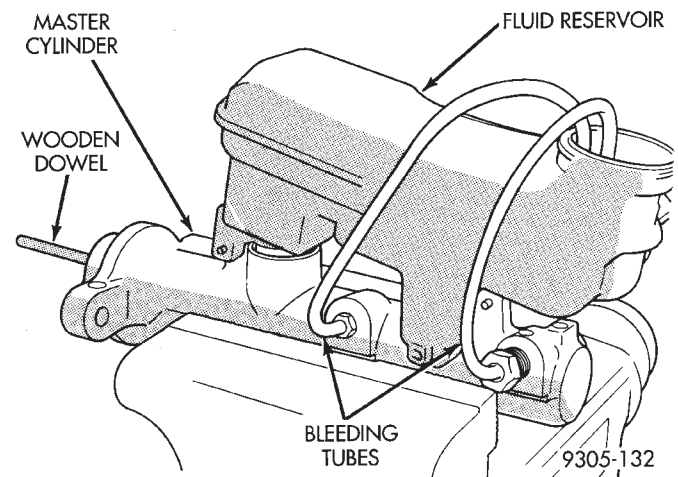

Fig. 7 Bleeding Master Cylinder
(1) Clamp the master cylinder in a vise. Attach Bleeding Tubes to master cylinder (Fig. 7). Position tubes so the outlet of the Bleeding Tubes will be below the surface of the brake fluid when the reservoir is filled to the proper level.
(2) Fill reservoir with brake fluid conforming to DOT 3 specifications such as Mopar or Equivalent.
(3) Using a wooden dowel per (Fig. 7). Depress master cylinder pistons slowly, and then allow pistons to return to released position. Repeat several times until all air bubbles are expelled (Fig. 7).